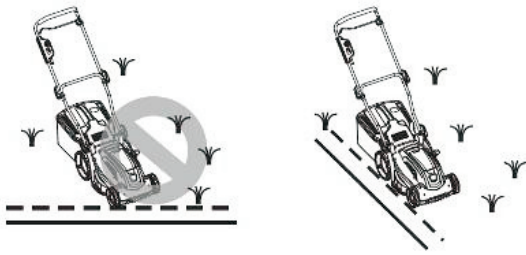

Fig.10B
- d) Never lift the rear of the mower while starting the motor or during normal operation. (Fig.10B)